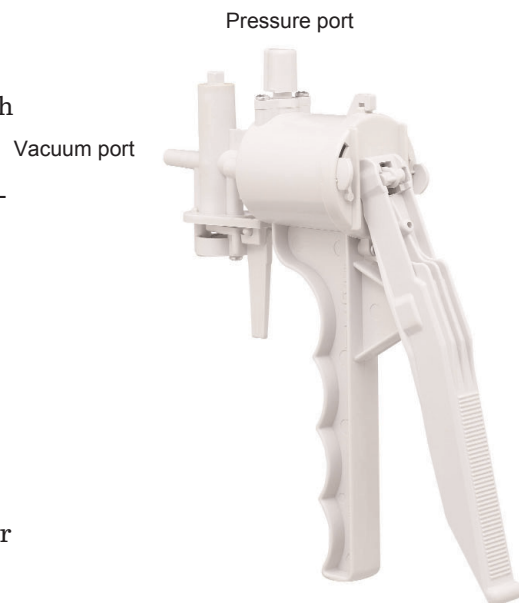

Figure 4: Vacuum and pressure ports
- 4) The port on the front of the pump is the vacuum port (see Figure 4). The clear tubing should be attached here. If it is not, remove the tubing from the pressure port (on the top of the pump) and attach it to the vacuum port on the front (see Figure 5).